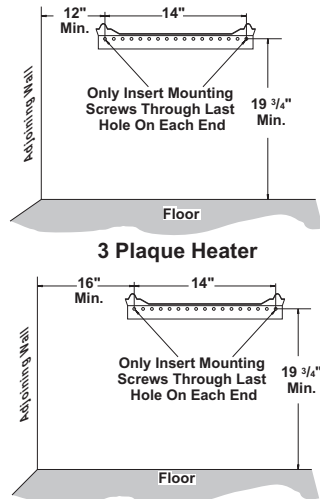

Figure 8 - Mounting bracket Clearances
WARNING: Maintain minimum clearances shown in Figure 8. If you can, provide greater clearances from floor and joining wall.
2. Mark screw locations on wall (see Figure 8).